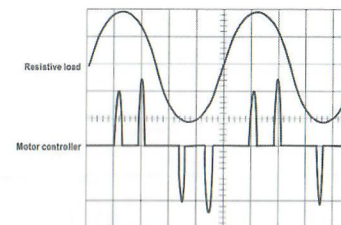

Figure 3 Typical current waveform
5. Adjust the probe channel and oscilloscope's time base as necessary to get a clear and stable view of the signal. Set the oscilloscope input to DC volts ti see both the AC and DC current; set the channel to AC to see the AC current only. The current drawn by different devices look much different than that of others. While the RMS current can only be used in low frequency current, the momentary peaks may be quite high. Figure 3 shows the difference between the line current drawn by a resistive load and a motor controller.